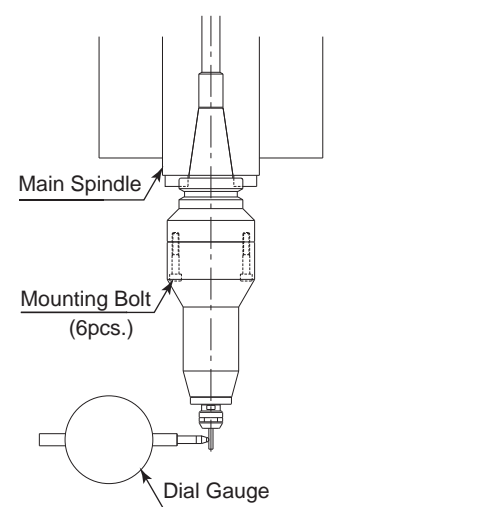

Fig. 28
- To adjust the HES centerline, mount the HES Brushless Motor Spindle in the machining center's quill and use a dial gauge on a test pin. Loosen the six bolts that hold the taper housing together, slightly and tap out the X-Y eccentricity. Rotate the machining center's spindle by hand to Main Spindle verify concentricity. (Fig. 28)